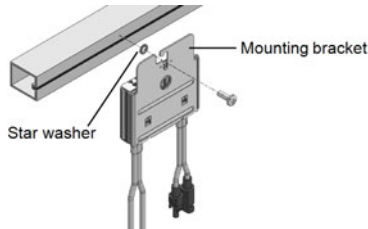

Figure 5: Power optimizer installation and grounding using a star washer
- Determine the power optimizer mounting location and use the power optimizer mounting brackets to attach the power optimizer to the support structure (See *Figure 5*). It is recommended to mount the power optimizer in a location protected from direct sunlight. For frame-mounted power optimizers follow the instructions supplied with the optimizers, or refer to https://www.solaredge.com/sites/default/files/installing_frame_mounted_power_optimizers.pdf.
- **For mounting on a grounded metal rail:** Use the provided 5/16" stainless steel grounding star washer between the railing and the flat side of the mounting bracket. The grounding washer should break through the anodize coating of the railing to ensure low resistive connection. Apply torque of 9.5 N*m / 7 lb*ft. See Figure 5.